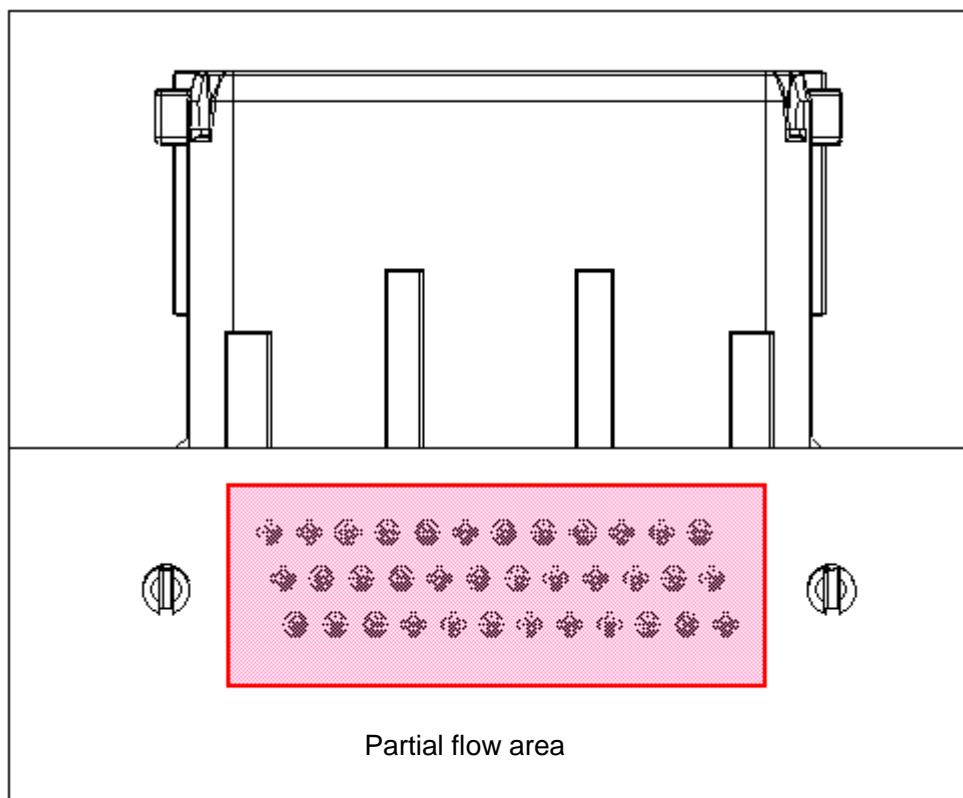

Fig.24
- ④ Solder the male assembly on the PC board. Perform partial flow soldering for the terminals, because the snaps may be deformed due to heating. (Fig.24)